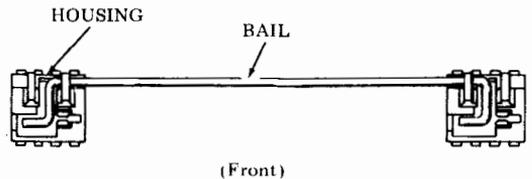

Fig. 6—Wire Bail and Housing Assembly
- (b) Snap the two spacebar housings into the keyboard channel, see Fig. 6. Make sure the four tines of the channel engages the notches in the spacebar housing.